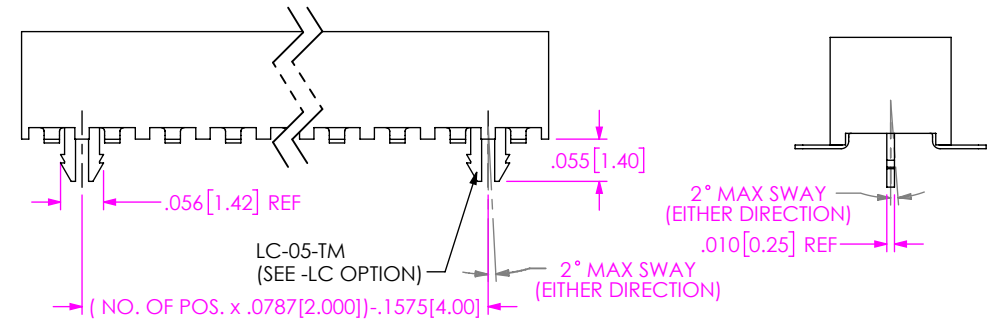

FIG 5
-LC: LOCKING CLIP (USE 2 LC-05-TM) (AVAILABLE ONLY WITH LEAD STYLE -02) (SEE NOTE 5 & 12)(SEE FIG 5, SHT 2)